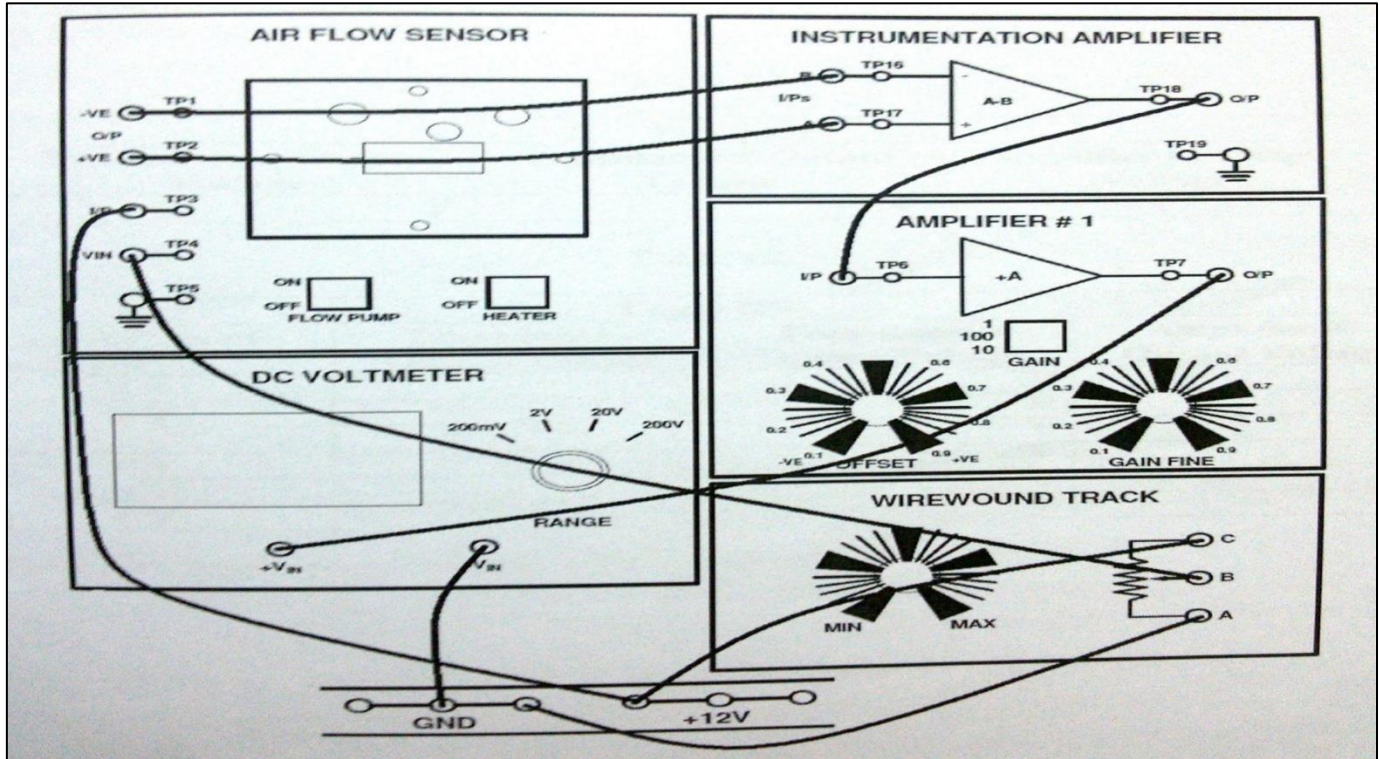

Figure 9.3 (Experimental Setup)
Refer to figure 9.3 to configure setup for the present experiment.
- Connect the circuit as shown in the figure 9.3
- After connecting the circuit according to the figure 9.3, set the GAIN of amplifier # 1 to 10 and GAIN FINE control to 1.0. Check the pump control is set to OFF.
- Connect +12V supply to one end of the Wire wound track and on the other end as shown in the figure 9.3.